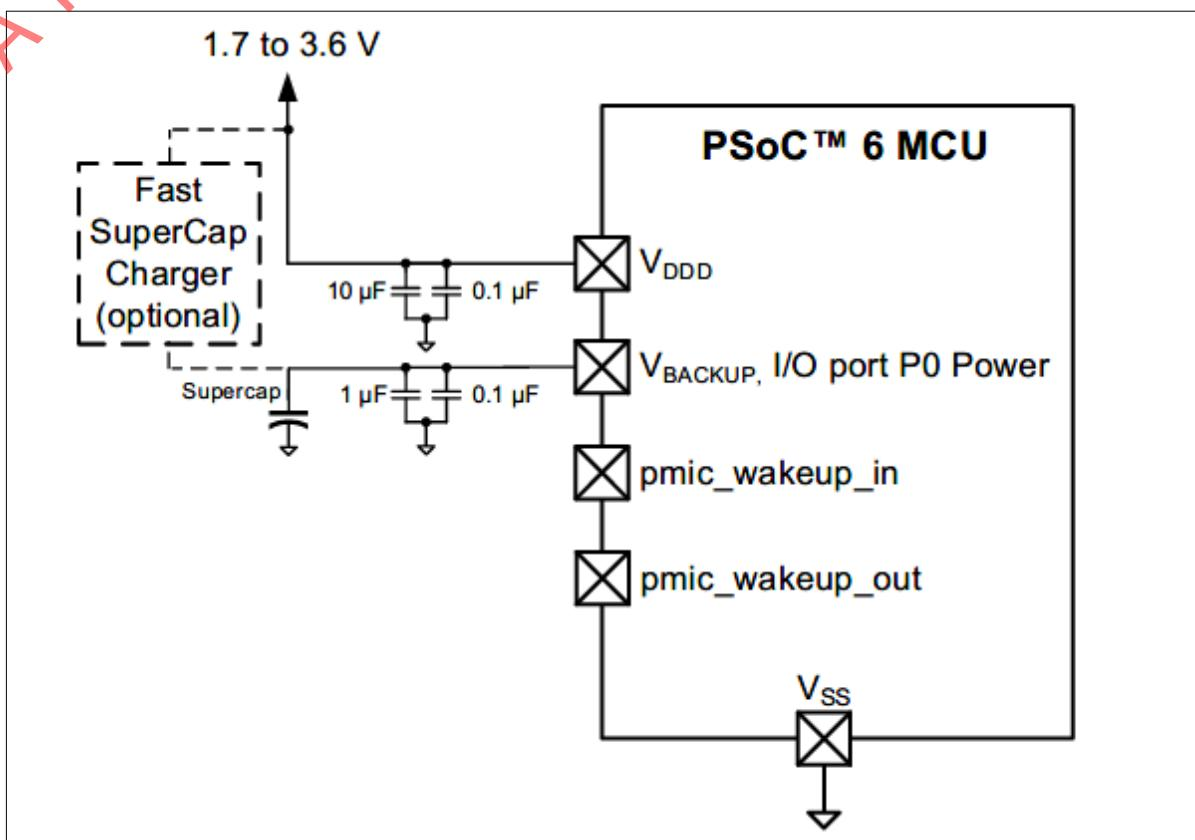

Figure 389
2. **V_{BACKUP} powered by supercapacitor** – When a supercapacitor is used as the V_{BACKUP} supply as shown in Figure 389, there are two options for recharging it. By calling the `Cy_SysPm_BackupSuperCapCharge()` PDL function, the internal charge circuit is enabled any time the V_{DDD} supply is selected as the active V_{DBBAK} supply